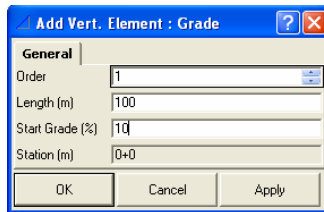

Figure 9-48. Add Vert.Element: Grade dialog box. General Tab
2. In the *General* tab of the **Add Vert. Element: Grade** dialog box, enter the following parameters for the grade (Figure 9-48 on page 9-30):